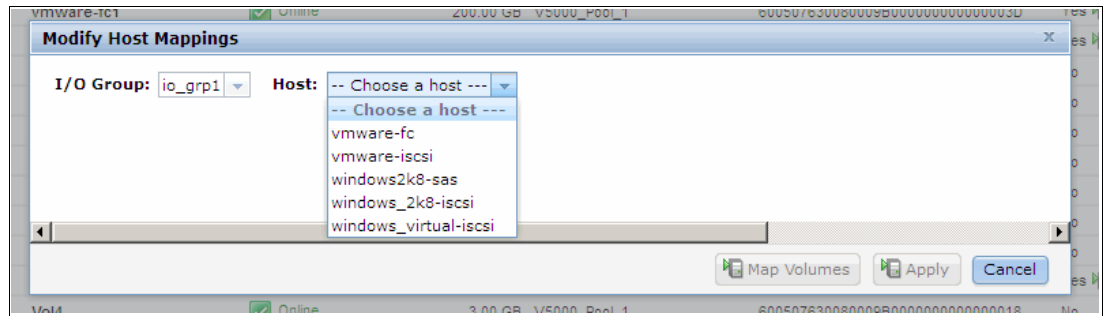

Figure 5-23 Select a host
2. Select the host to which the volume is to be available, as shown in Figure 5-23.